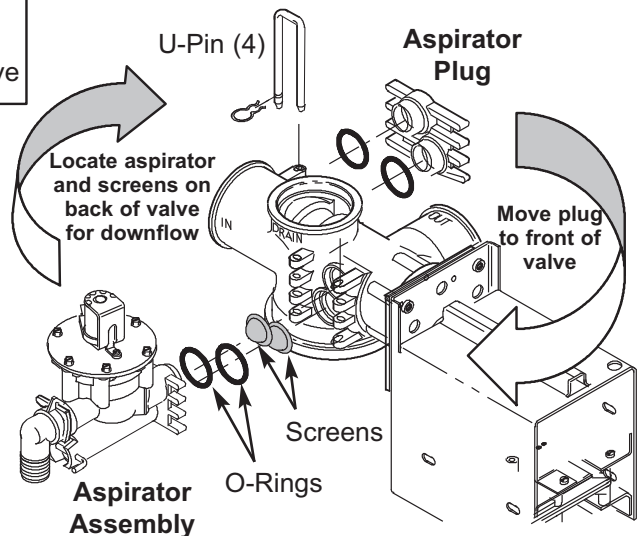

FIG. 5
c. After converting the aspirator, remove the plug on the back side of the valve and install the aspirator, see Figure 5. Be sure to use screens and o-ring seals.